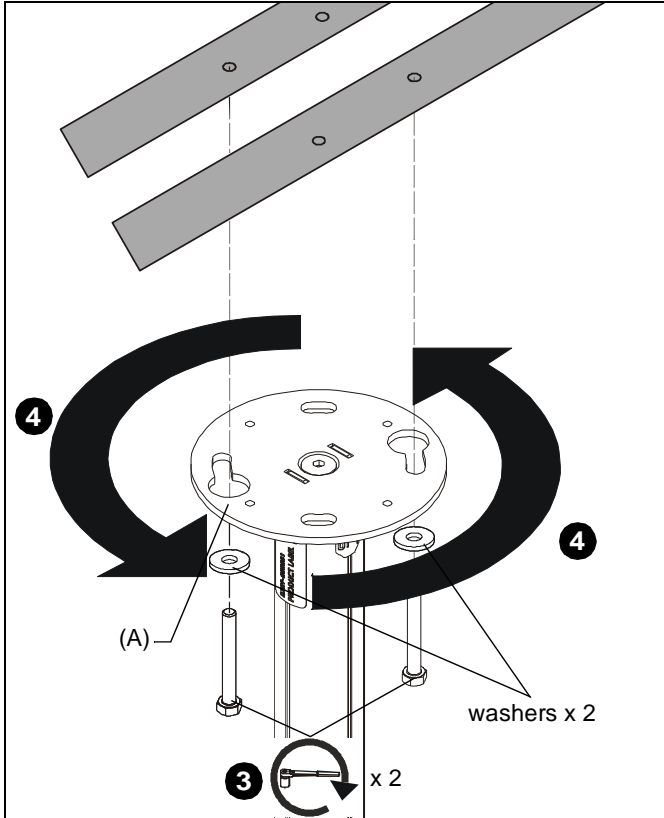

Figure 4
- Loosely install two 5/16" x 2-3/4" (minimum) lag screws (not included) through two 5/16" washers (not included) into opposite corners of holes drilled in wood stud cross bracing. (See Figure 4)
- Place ceiling plate (A) up to ceiling and turn until lag screws hold plate up in position. (See Figure 4)